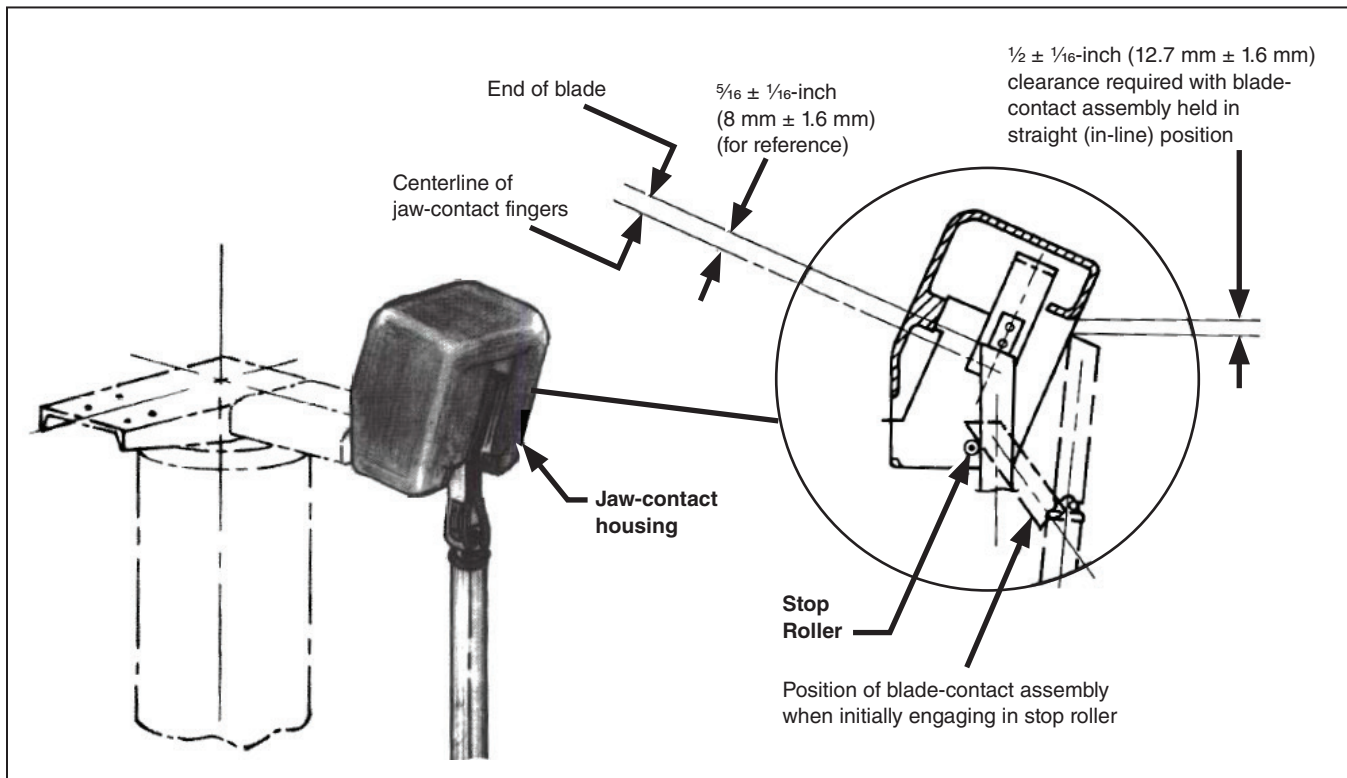

Figure 4. Jaw-contact detail.
- (c) Raise or lower the blade assembly in the blade clamp so with the blade-contact assembly held in the straight (in-line) position, it enters the jaw contact with a $\frac{1}{2}$ -inch (12.7 mm) clearance between the end of the blade contact assembly and the upper lip of the jaw-contact housing. See Figure 4. Securely tighten the blade clamp bolts but do not tighten the piercing set screws at this time.
STEP 10. Using the manual geared operating handle, crank the grounding switch to its fully **Closed** position. Make sure, with the blade contact firmly against its stop roller (see Figure 4 on page 10), the blade drive linkage is in a positive-toggle condition—approximately 5 degrees over center. It may be necessary to change the effective length of the drive linkage by repositioning the blade drive-linkage pipe link in its coupling and/or repositioning the blade drive-linkage lever on the interphase operating shaft, to achieve full 90-degree blade travel and positive toggle.